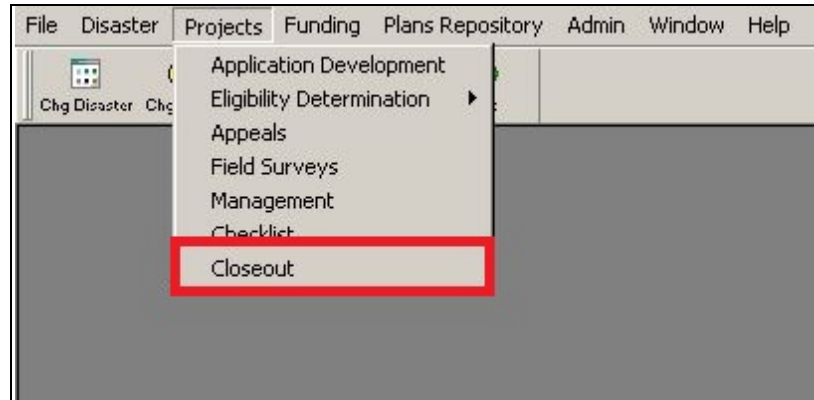

Figure 12-1: Mitigation >Projects >Closeout
1. On the NEMIS menu bar, click on the Mitigation icon. On the MITIGATION menu, click Projects > Closeout (Figure 12-1).